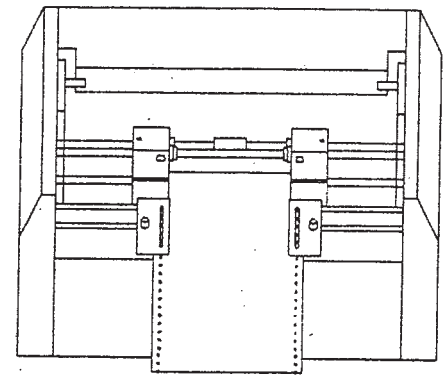

FIG 9
6. Lightly press the infeed brush so that it rests lightly on the form. (Fig. 9)
7. Center the leading edge of the form at the infeed end of the machine so that the outer edges of the form extend equally beyond the Guide Wires Indicators on each side. If you find that the edges come within about 1/4" of the Guide Wires, offset the form in either direction to avoid this. (Fig. 9)